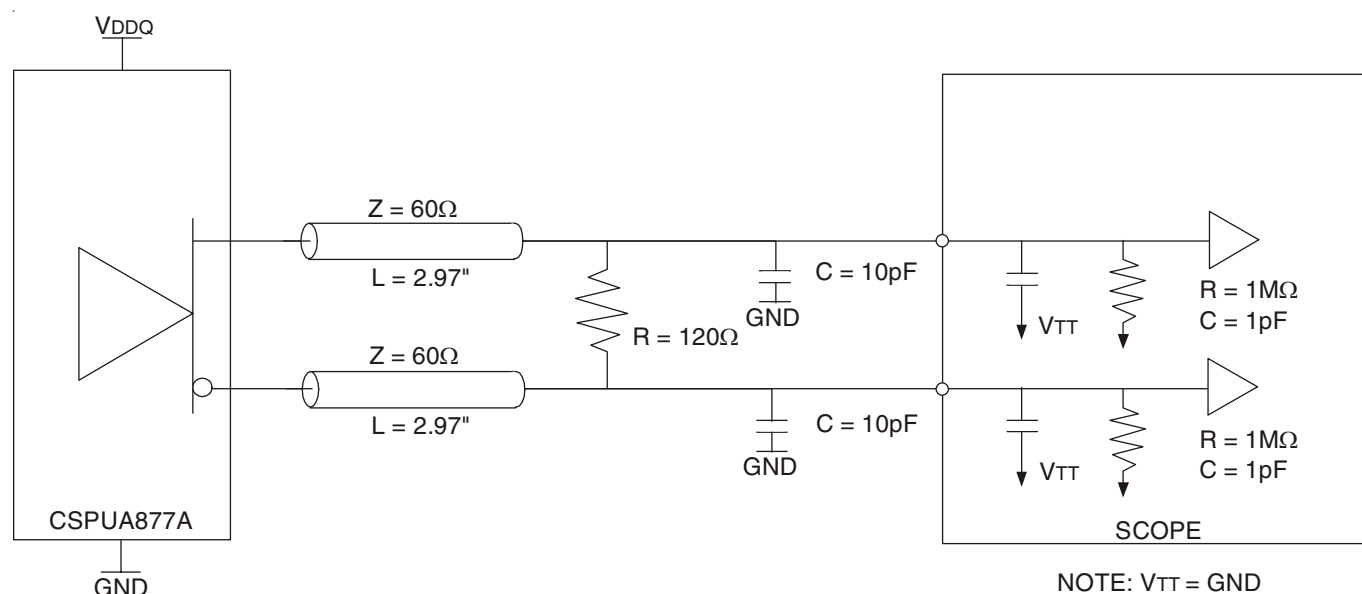

Figure 1: Output Load Test Circuit 1
- There are two different terminations that are used with the above AC tests. The output load shown in figure 1 is used to measure the input and output differential pair cross-voltage only. The output load shown in figure 2 is used to measure all other tests, including input and output slew rates. For consistency, use 50 $\Omega$  equal length cables with SMA connectors on the test board.
- In the frequency range of 271 - 410MHz, the min and max values for tJIT(PER) and t( $\emptyset$ )DYN, and the max value for tsk(O), must not exceed the corresponding min and max values of the 160 - 270MHz range. Also, the sum of the specified values for | tJIT(PER) |, | t( $\emptyset$ )DYN |, and tsk(O) must meet the requirement for  $\Sigma$ t(SU), and the sum of the specified values for | t( $\emptyset$ )DYN | and tsk(O) must meet the requirement for  $\Sigma$ t(H).